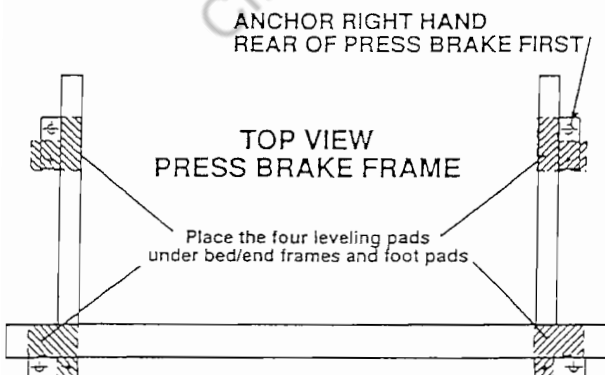
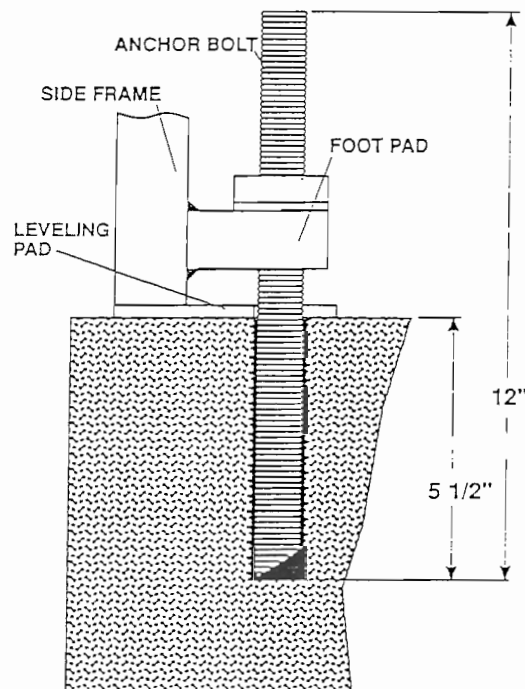

FIGURE 2
FIGURE 3
- Step 2. Drill a 1" diameter clearance hole (with supplied concrete drill) for the right hand rear anchor bolt as shown Figure 2. Clearance holes should be 5 1/2" deep (Figure 3).
- Step 4. Remove skids from press brake and position right hand rear press brake foot pad over anchor bolt. Place the four leveling pads under bed/end frames and the foot pads (Figure 2). Carefully lower machine so that the hole in the right rear foot pad clears the anchor bolt.